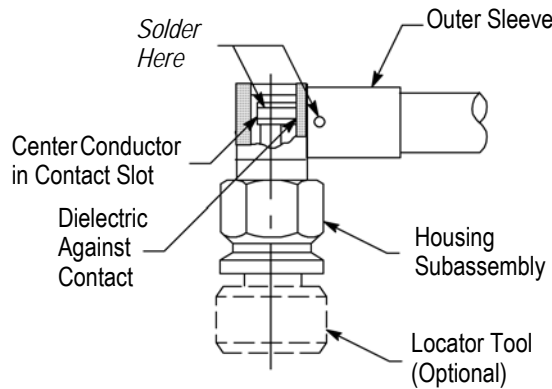

Figure 3
- Secure the housing subassembly to the locator tool as shown in Figure 3. Secure the housing subassembly in a small bench vise.
5. Insert the center conductor into the housing subassembly making sure that the center conductor sits in the contact slot and the dielectric is against the contact. See Figure 3.
6. Place the soldering iron on the tip of the contact, and solder. Refer to Figure 3.
7. Slide the outer sleeve over the cable braid, and solder the hole in the outer sleeve. See Figure 3. Trim excess braid strands.